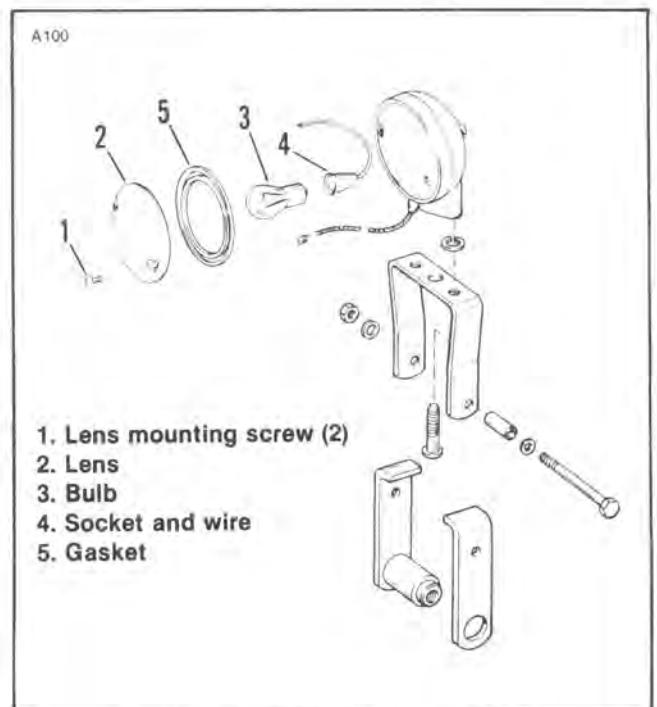

Figure 2-2. Sidecar Turn Signal
1. See Figure 2-2. Remove two screws (1) and lens (2).
4. Replace bulb and gasket (5) if required.
5. Reinstall lens (2) and screws (1).